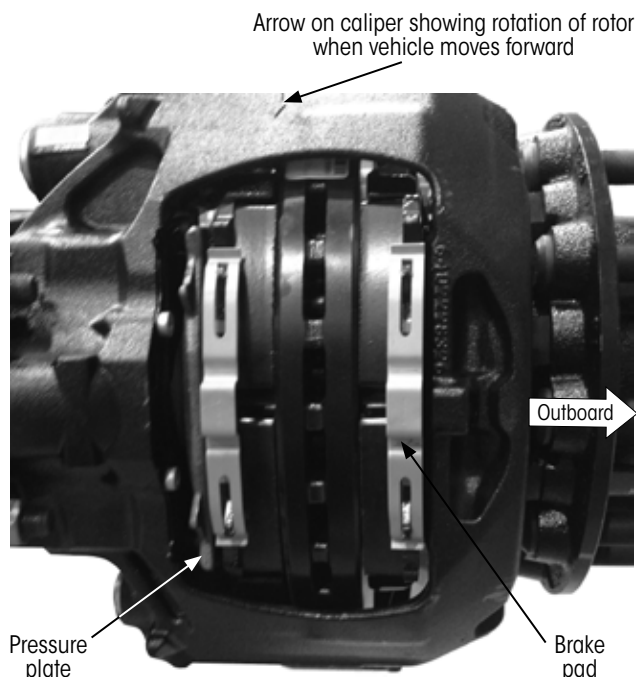

Figure 24: Removing outboard brake pad
9. **Manually push** the brake caliper outboard and remove the outboard brake pad (Figure 24).